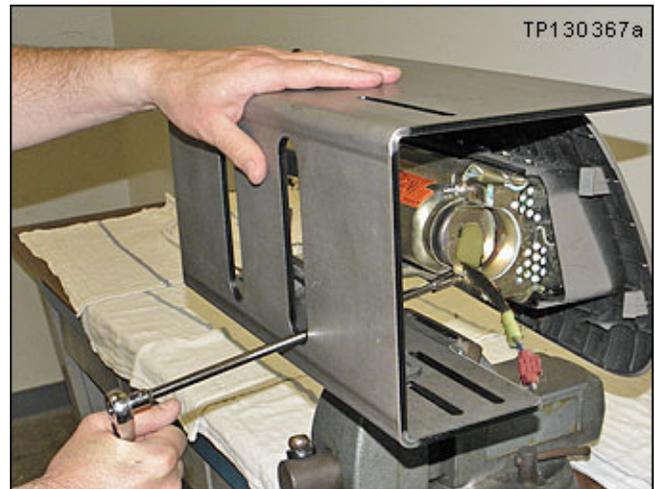

Figure P8
10. Remove the 4 nuts from the module that hold the inflator in place (see Figures P8 and P9).